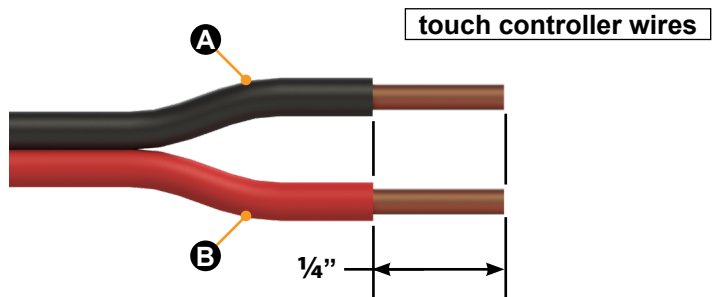

Fig.24
B. Use a wire stripper to remove 1/4" of insulation (Fig.24) from the ends of the black (-) (Fig.24A) and red (+) (Fig.24B) wires.